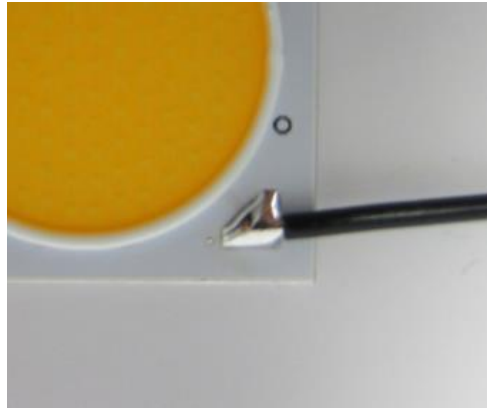

Figure 9: Example of a good solder joint
- c. Place the hot tip of the soldering iron on top of the tinned wire end. Bring the solder wire to the area just below the solder tip (see Figure 8). Only a small amount of solder is necessary to form a joint. After the solder melts and while holding the wire in place, quickly remove the soldering iron to prevent the formation of icicles. Allow the solder joint to cool until the molten solder solidifies. Do not move the wire or the array during this time. Figure 9 shows an example of a good solder joint. Signs of an overheated solder joint include solder spike formations and burnt flux residue. If these signs are observed, consider reducing the solder time or the soldering iron temperature. The process of soldering wires to the array should take just a few seconds.
- d. Allow the solder joint to cool until the molten solder solidifies. Do not move the wire of the array during this time. Figure 9 shows an example of a good solder joint.